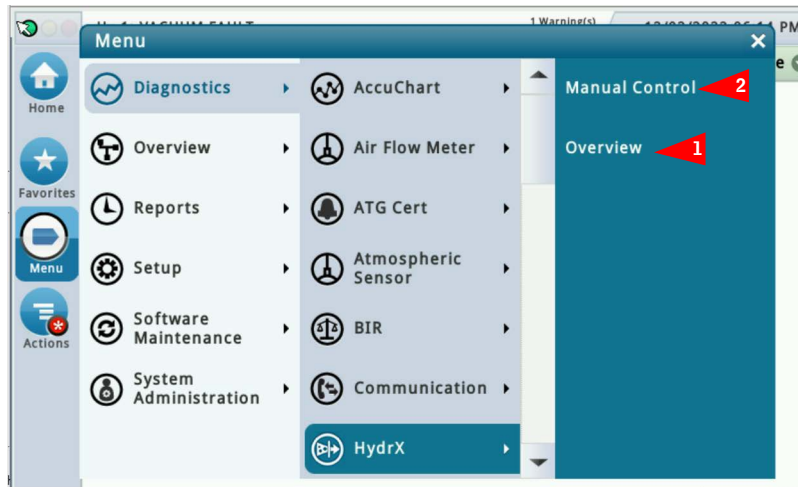
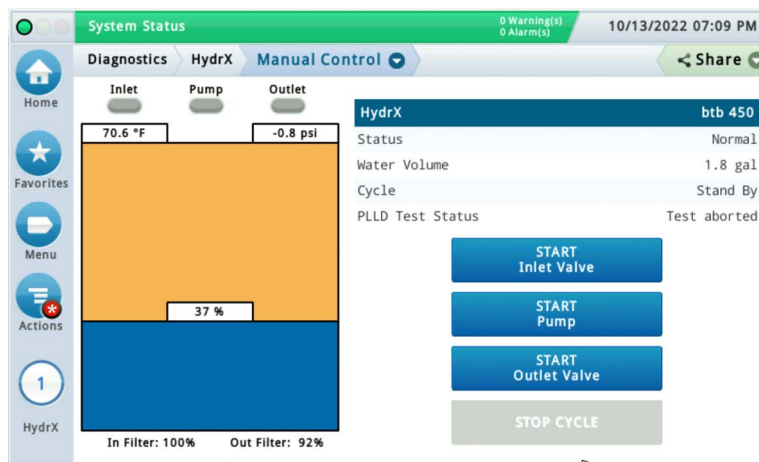

Figure 3. Accessing HydrX Diagnostic Screens
Figure 7. Example HydrX Diagnostics Manual Control Screen
- Touch **Menu>Diagnostics>HydrX** to open the HydrX Diagnostic Screen, then touch **Overview** (Item 1, Figure 3) to open the HydrX System Diagnostics Overview screen (Figure 4).
1. Touch **Menu>Diagnostics>HydrX** to open the HydrX Diagnostic screen, then touch **Manual Control** (Item 2, Figure 3) to open the HydrX System Diagnostics Manual Control screen (Figure 7).